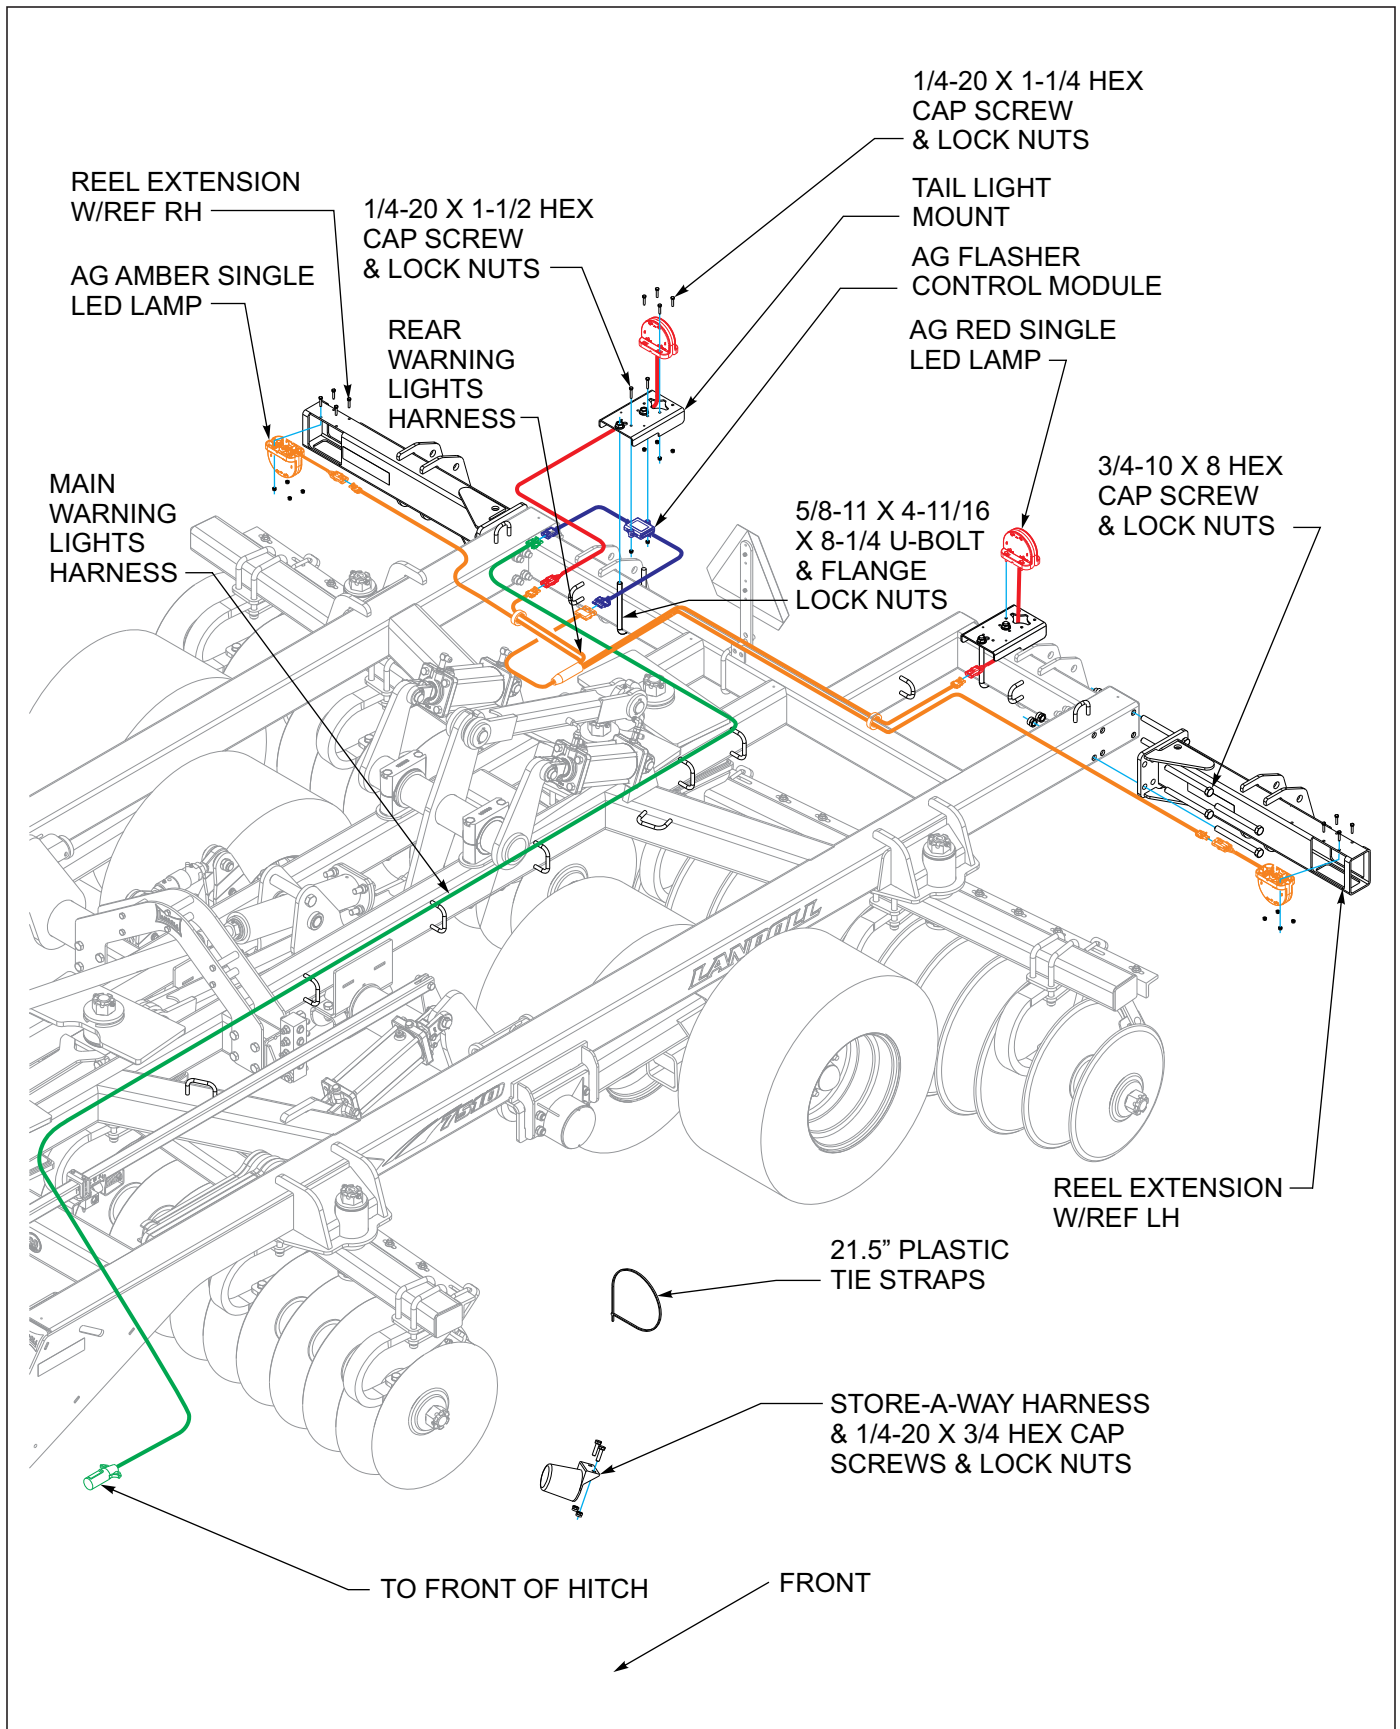

Figure 3-14: LED Light Installation
*Refer to (See Figure 3-14.) for light bracket placements.*
1. Attach left and right reel extensions w/ref to center frame using 3/4-10x 8 hex cap screws and lock nuts. The yellow reflectors go to the front side (**See Figure 3-14.**) and attach left tail light mount to frame assembly using 5/8-11 x 4-11/16 x 8-1/4 u-bolts and 5/8-11 flange lock nuts.